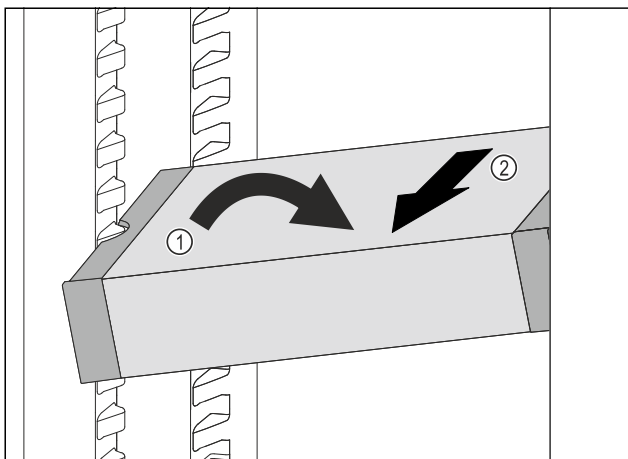

Fig. 201
- ▶ Set VarioSafe in refrigerator compartment at an angle. Fig. 201 (1)
- ▶ Take VarioSafe out to the front. Fig. 201 (2)